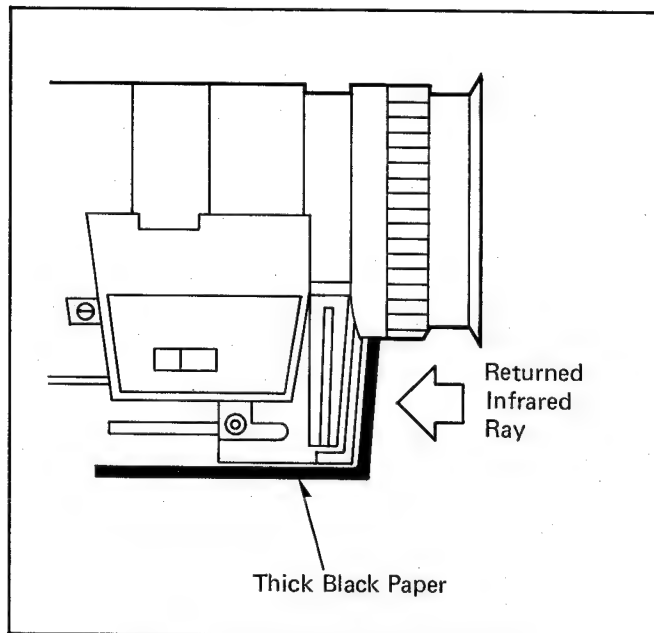

Fig. 4 Covering Method (Top View)
3. Cover the distance detection window (receiver side) with the thick black paper as shown in Fig. 4.